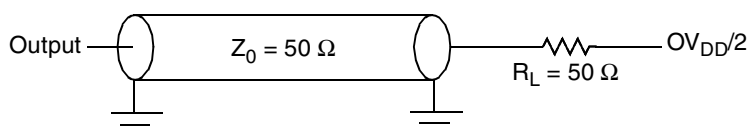

Figure 13. Local Bus C Test Load
Figure 13 provides the AC test load for the local bus.
1. All outputs are measured from the midpoint voltage of the falling/rising edge of t_{TCLK} to the midpoint of the signal in question. The output timings are measured at the pins. All output timings assume a purely resistive 50-Ω load (see Figure 13). Time-of-flight delays must be added for trace lengths, vias, and connectors in the system.
2. The symbols used for timing specifications follow the pattern of $t_{(first\ two\ letters\ of\ functional\ block)(signal)(state)(reference)(state)}$ for inputs and $t_{(first\ two\ letters\ of\ functional\ block)(reference)(state)(signal)(state)}$ for outputs. For example, t_{JTDVKH} symbolizes JTAG device timing (JT) with respect to the time data input signals (D) reaching the valid state (V) relative to the t_{JTG} clock reference (K) going to the high (H) state or setup time. Also, t_{JTDXKH} symbolizes JTAG timing (JT) with respect to the time data input signals (D) went invalid (X) relative to the t_{JTG} clock reference (K) going to the high (H) state. Note that, in general, the clock reference symbol representation is based on three letters representing the clock of a particular functional. For rise and fall times, the latter convention is used with the appropriate letter: R (rise) or F (fall).